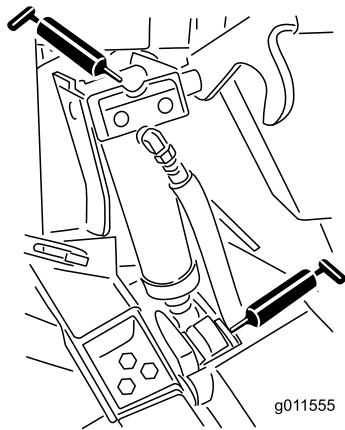

Figure 69
- Lift cylinder bushings (4) (Figure 69)